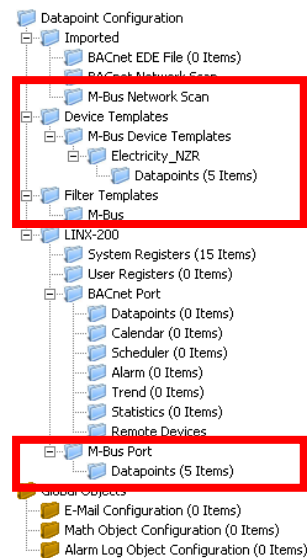

Figure 113: Data Point Manager Dialog with M-Bus folder list
- The folder list (Figure 113)